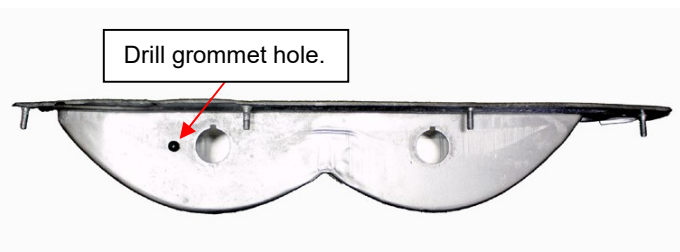

Figure 3
- 2.3. OPTIONAL: If sequential patterns are desired, drill 1 – 3/16" hole 1/2" to the outboard side of the mounting hole in the outboard light chamber. (See Figure 3) The exact location of the hole is not critical. Then install provided rubber grommet into the drilled hole. One method to simplify installation is to pinch grommet, insert protruding edge into the hole, then use a small flat blade screwdriver to push/work the remaining edge through the hole.